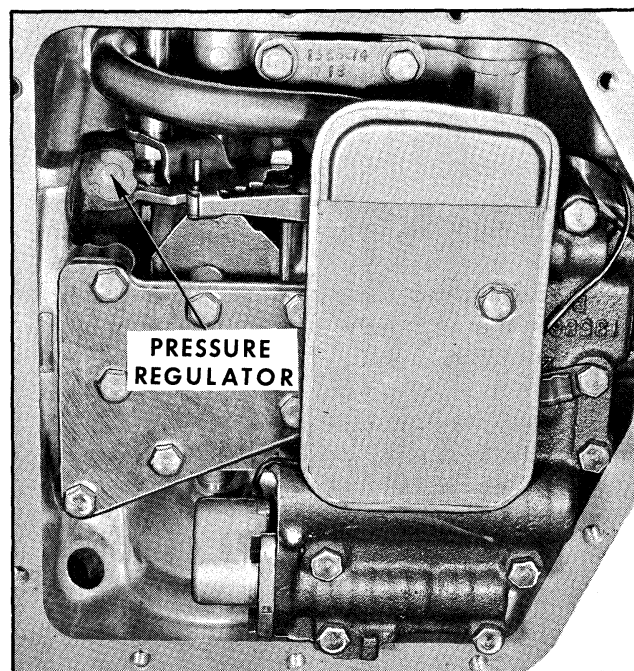

Fig. 7B-51 Pressure Regulator Location
1. Refer to Fig. 7B-103 for correct assembly sequence.